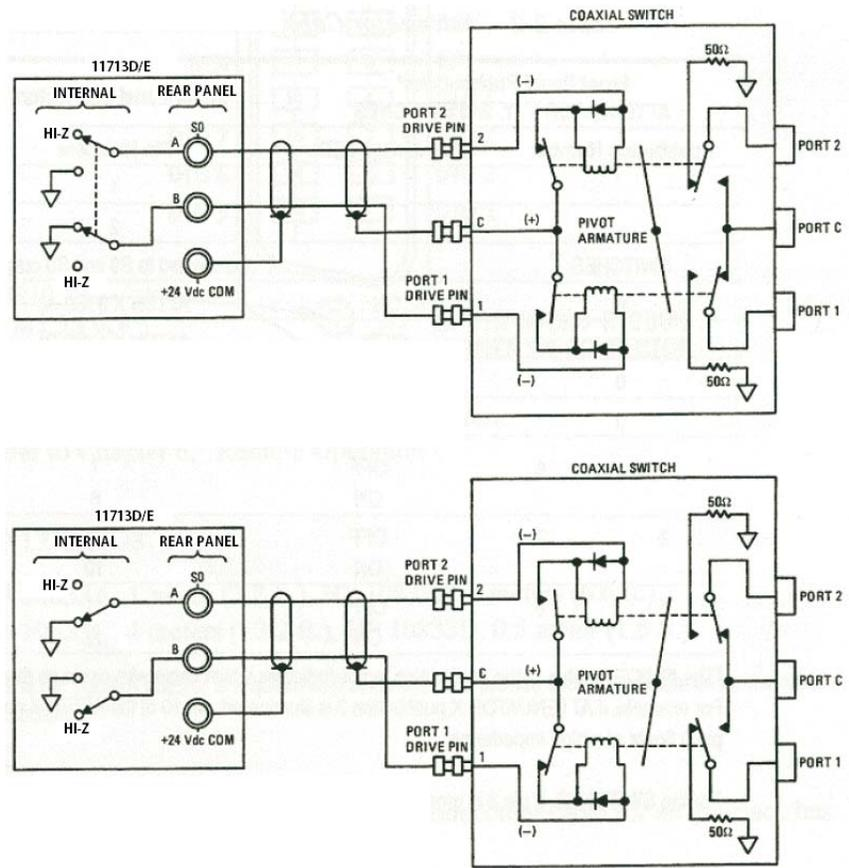

Figure 2-3 Typical connection for 8762 and 8765 series coaxial switches
- Figure 2-3 below shows the rear panel connections to S0 outputs and the corresponding switch positions reflected by pushbutton indicators.